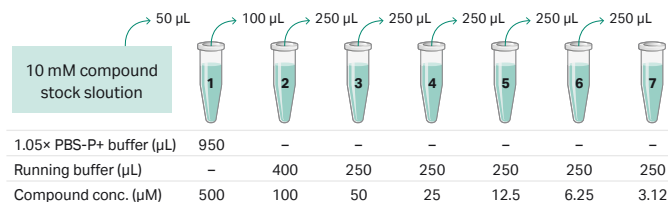

Fig 2. Dilution example for concentration series from 500 to 3.12 µM. Concentrations of 50–3.12 µM could be used for a kinetic analysis.
- For example, dilute the sample stock (in 100% DMSO) solution 20 times to obtain a DMSO concentration of 5%. For 1000 μL , mix 50 μL of sample stock DMSO and 950 μL of 1.05× PBS-P+. If the sample stock is 10 mM, this dilution will result in a sample concentration of 500 μM . To prepare a concentration series dilute the sample further using assay running buffer (PBS-P+ with 5% DMSO). An example is shown in Figure 2.